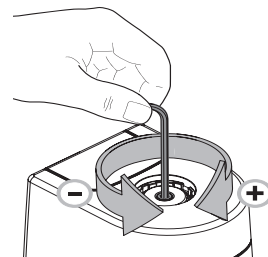

Fig. 7.2
- / **Pressure increase:** turn clockwise in the direction of the arrow (fig. 7.2) = increase pressure (+) with constant visual control of the manometer
- / **Pressure minimisation:** turn counterclockwise in the direction of the arrow (Fig. 7.2) = minimise pressure (-)
According to Fig. 7.2, turn the hexagonal pin spanner anticlockwise **as far as it will go**.